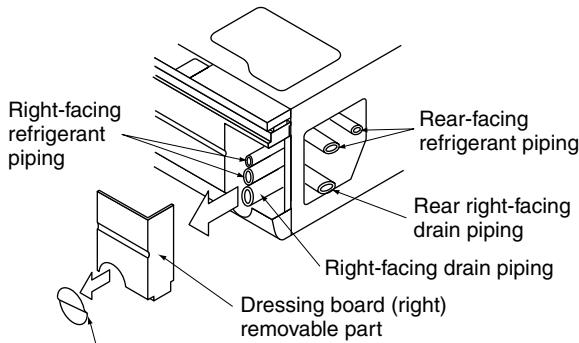

Fig. 14
- Cut the slit on the decorative laminated sheet (Right) and perform piping. (Refer to Fig. 14)